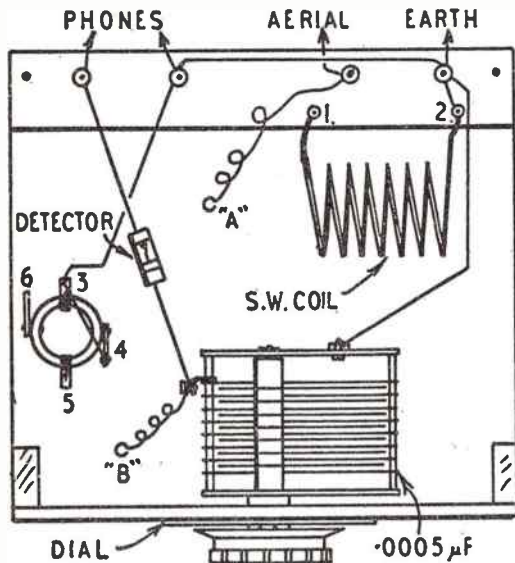

Fig. 2—Complete wiring plan
of the receiver, as in Fig. 2, being mounted on small wooden blocks, so that the terminals clear the baseboard. The tuning coils fitted can be chosen as explained later.
tuning condenser and detector. This allows direct or other forms of aerial coupling to be tried at will. In Fig. 2, lead (A) goes to the aerial clip, and lead (B) to the condenser clip.
All connections are shown in Fig. 2. The moving plates (or metal frame) of the condenser are taken to earth, lead (B) going from the fixed plates. Any kind of wire will be satisfactory for connections, and that obtained for the S.W. coil will be suitable.
One end of the S.W. coil (point 2 in Fig. 2) is taken to earth, as shown. The earthed end of any L.W. or M.W. coil is also taken to the earth circuit. In Fig. 2, tag 3 of the M.W. coil is taken to earth via the earthed phone terminal, which is the same, and avoids too many leads on the earth terminal itself.
Ready-made coils may be used, and the connections in Fig. 2 are for the popular Wearite coils. Tags 3 and 4 are joined, and go to earth, as mentioned. Tag 5 (red) is gripped by clip (B), when this waveband is required, the aerial clip (A) going on tag 6. If a very short, poor aerial is used, volume will be increased by taking clip (A) to tag 5, together with clip (B).
A M.W. coil can be wound by using 85 turns of 32 S.W.G. enamelled wire, turns side by side, on a 1in. diameter insulated tube. One end goes to earth (as does tag 3 in Fig. 2). The other end is gripped by tag (B) when this coil is required. A centre tap, at about the 42nd turn, forms the equivalent of tag 6.
out straight, and a circular object about 1½in. in diameter (this dimension is not critical) is taken, and about 8 turns are wound tightly upon it. The coil is then removed from the object, and pulled out a little, as necessary, so that adjacent turns are slightly separated. Loops are formed at the ends, so that the coil can be held by the two small bolts shown in Fig. 2.